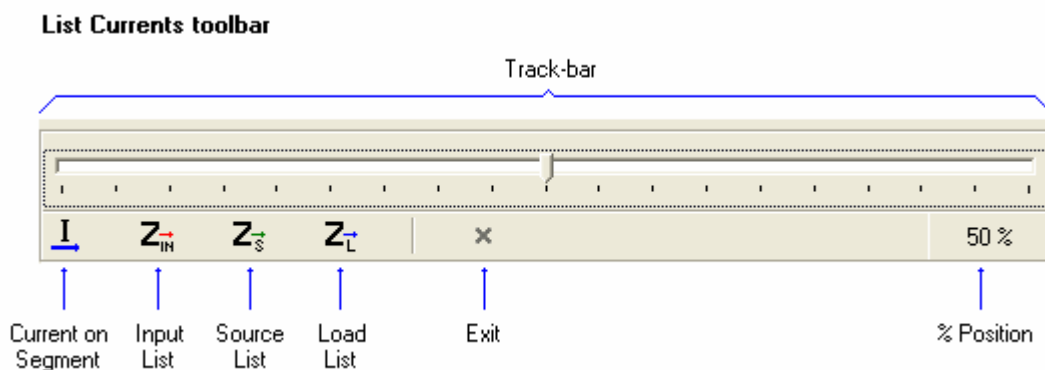

Fig. 13.5: The List Currents toolbar.
Clicking the right mouse button on a wire shows a pop-up menu. Choosing the List Currents command from the pop-up menu shows the List Currents toolbar, Fig. 13.5. This toolbar allows selecting an individual wire segment for visualizing its currents vs. frequency. Also, if the selected segment has a source or load, the lists of input impedances, admittances, voltages, powers, reflection coefficient, VSWR, return and transmission losses are available.
2. Choose the List Currents command from the pop-up menu to display the List Currents toolbar, Fig. 13.5.